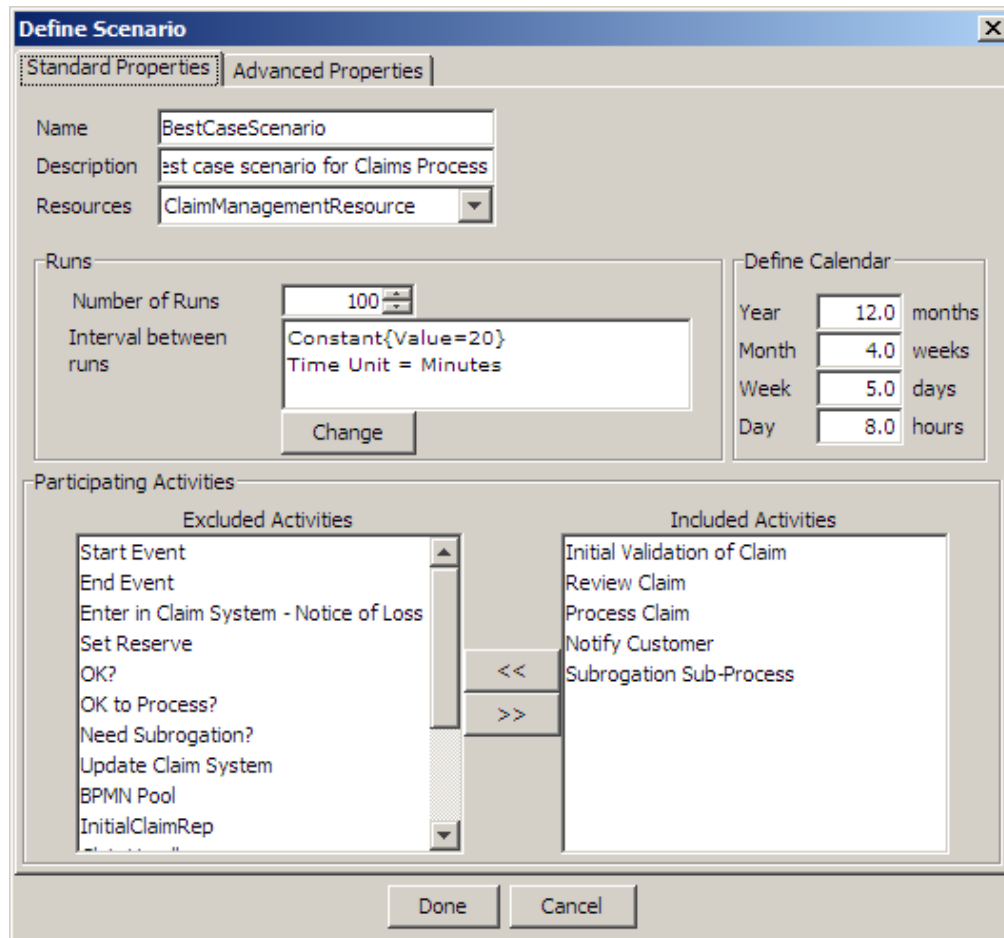

Figure 45: Claim Management Scenario
13. You can include or exclude an activity in the simulation scenario to get different statistics. **Participating Activities** section shows the list of activities which are included in the scenario and which are not included in the scenario. You can exclude and include an activity using **<<** and **>>** button. Figure 45 shows the scenario used in Claim Management process flow.